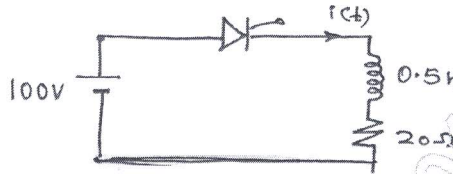

Fig.Q5(c)
- c. For the SCR shown in Fig.Q5(c), has a latching current of 20mA and is fired by a pulse width of 50 μ s. Determine whether the SCR turns on or not and comment on the result obtained. (04 Marks)